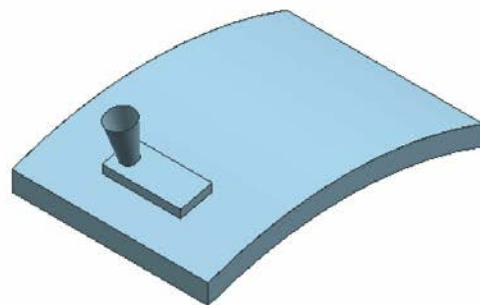

Figure 11-80 Resultant fourth feature
2. Extrude this sketch through a distance of 10 mm with -8 degrees as the draft angle by using the **From Start Limit** option. The resulting surface model is shown in Figure 11-80.